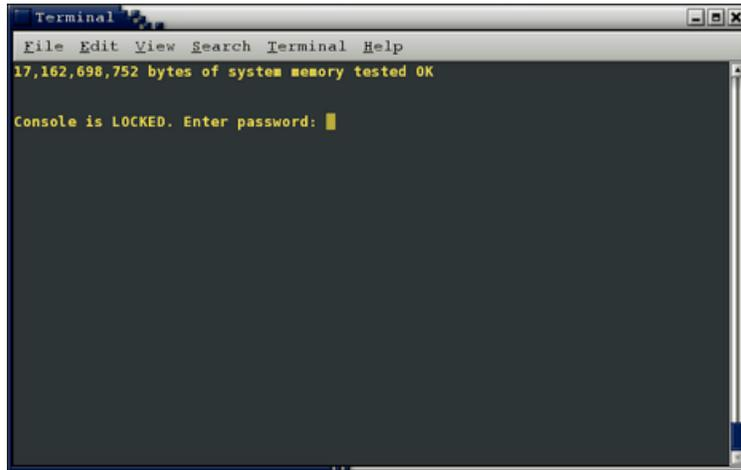

Figure 4-6 Console Administrative Password Prompt
7. When you reboot the system, the console will be locked and you will be prompted for a password before the system finishes booting and the `Shell>` prompt appears, as shown in Figure 4-6 on page 56.